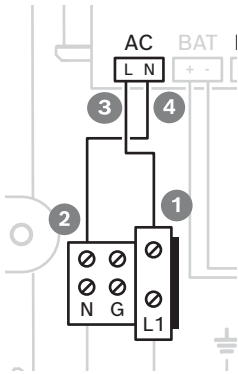

Figure 3.2: Connections of the LED indicator
4. Connect the single brown wire to position 3, marked with L (Figure 3.2).
5. Connect the other end from the brown wire to position 1 (Figure 3.2).
6. Connect the single blue wire to the position 4, marked with N (Figure 3.2).
7. Connect the other end from the blue wire to the position 2 (Figure 3.2).
2. Connect the neutral wire to terminal N (Figure 3.2).
3. Connect the phase wire to terminal L1 (Figure 3.2).